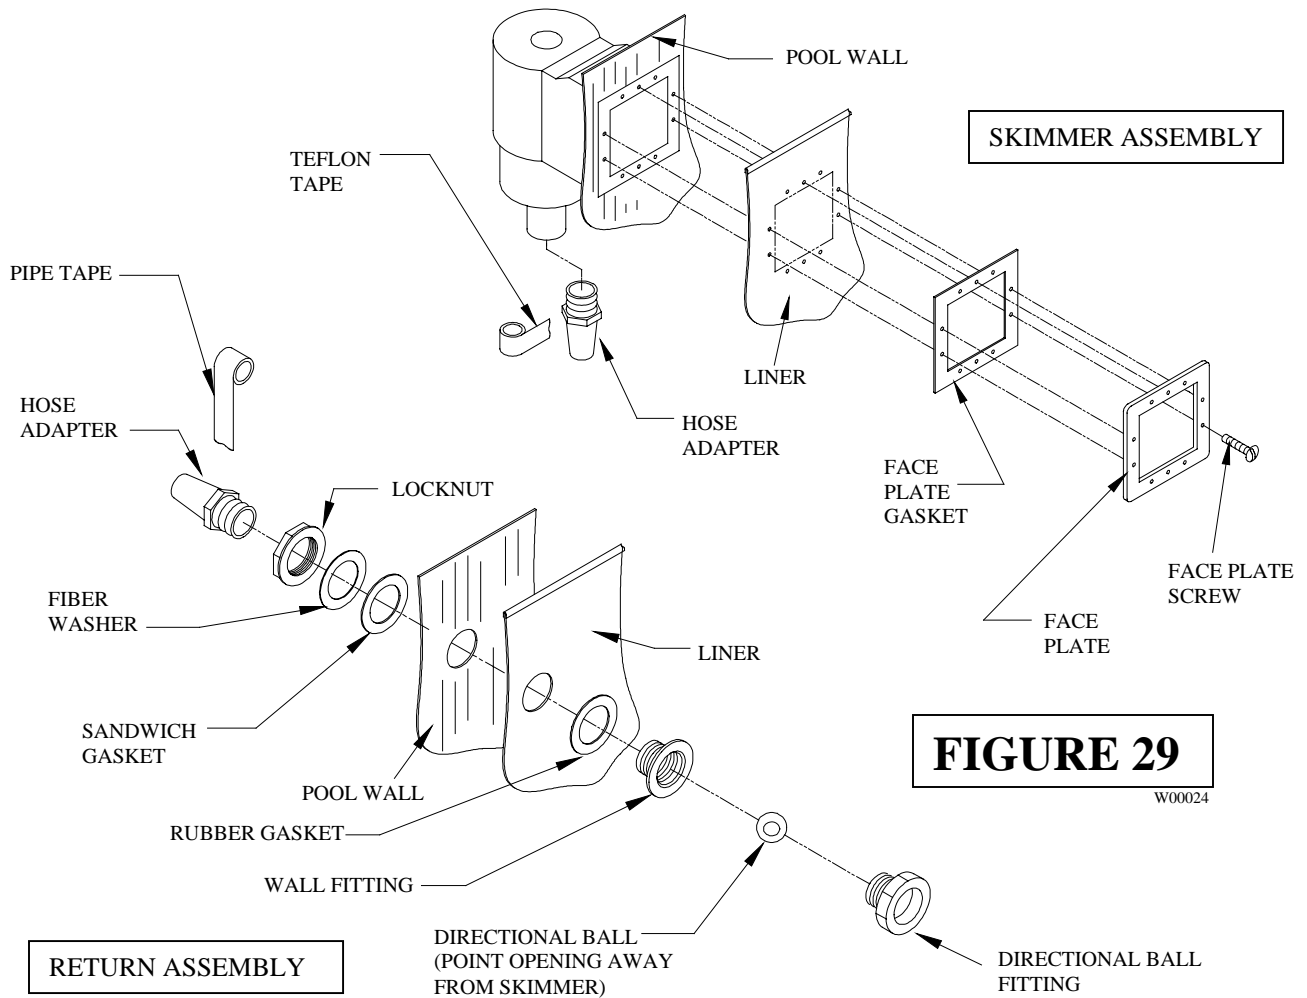

FIGURE 29
Step 25: Follow the instructions for the filtration system, skimmer and return that are supplied with the filter. See Figure 29 for additional assistance.